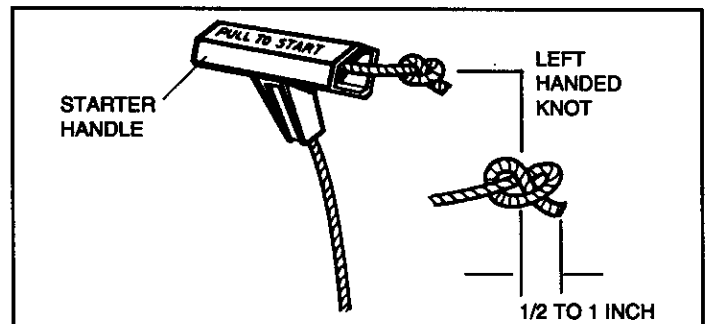

Figure 4
- C. Feed starter rope through starter handle (see Figure 4) and tie a left hand knot, leaving 1/2 inch to 1 inch of starter rope extending beyond left hand knot. **DO NOT PULL LEFT HAND KNOT INTO STARTER HANDLE YET.**